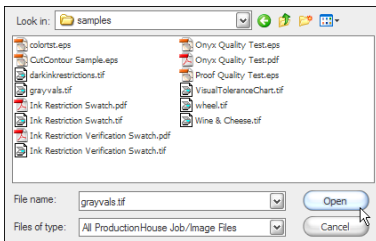

Figure 6—Open an Image
4. On the right-side of the dialog (see Figure 6), browse to your image, highlight it, and click **Open**. The image will open and move to the Jobs Ready to Print area of the program window.
4. On the right-side of the dialog (see Figure 6), browse to your image, highlight it, and click **Open**. The image will open in Preflight. From here, you can modify and edit your image.